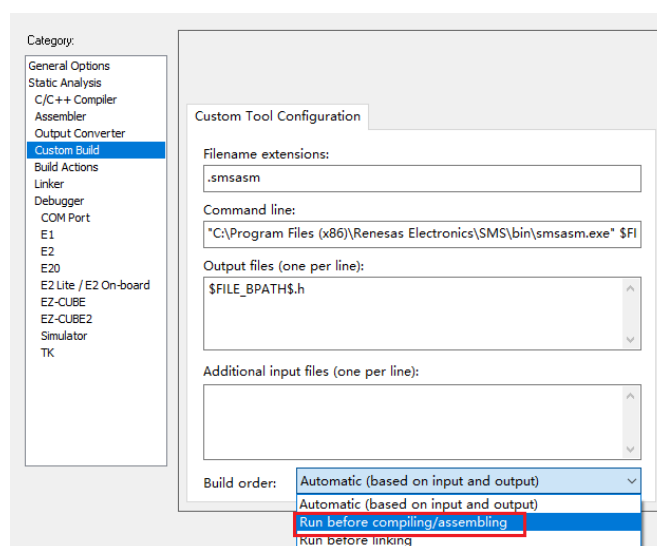

Figure 6-12 "Build order" setting of IAR Embedded workbench V5.10
- 1) When using IAR Embedded workbench V5.10, select "Run before compiling/assembling" (refer to Figure 6-12)